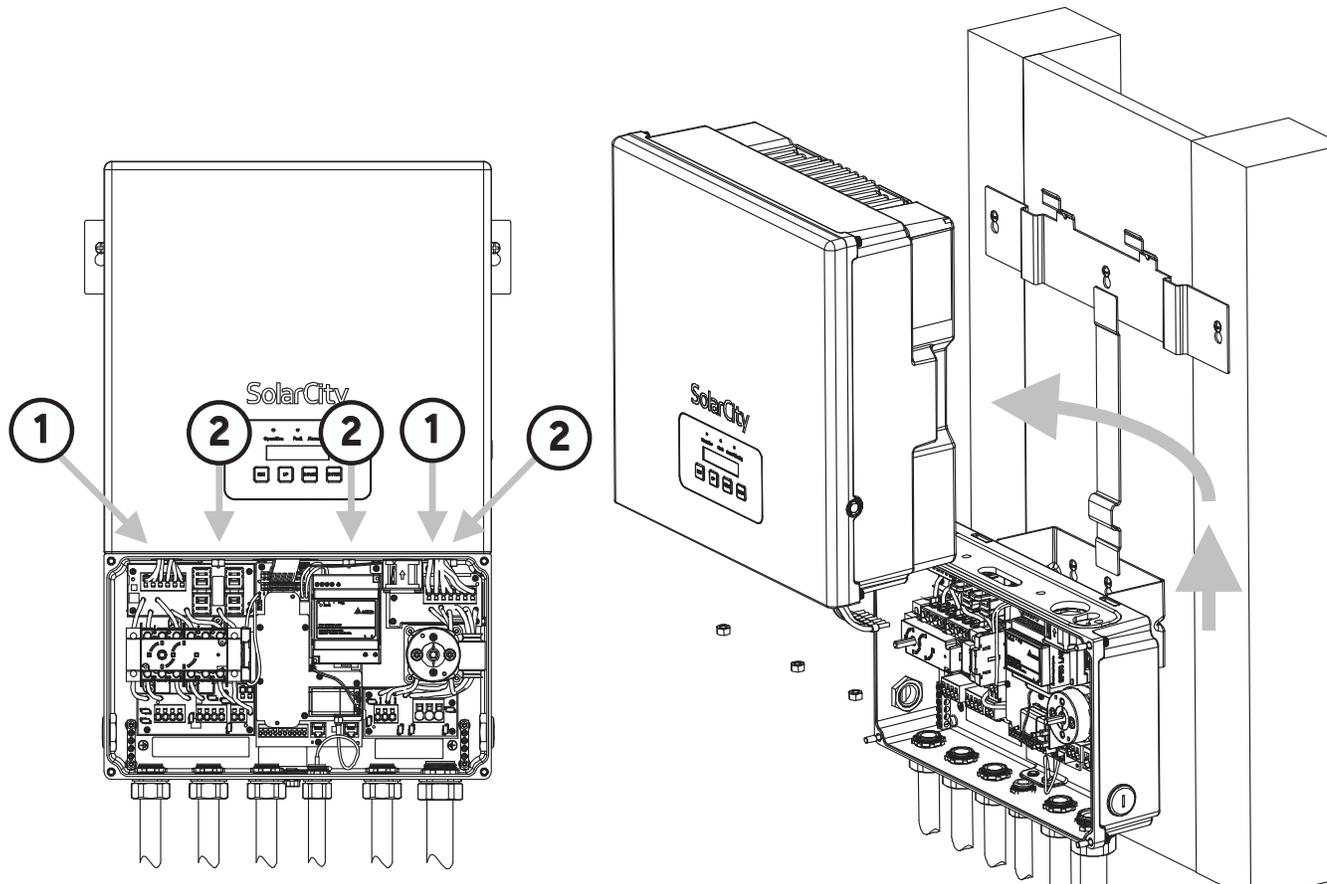

Figure 10-1: Removing the SolarCity H6 inverter top section
6. Remove all of the wires (1) from the top section spring-clamp connectors, as shown in *Figure 10-1*.
7. Using a 10mm wrench, remove the three nuts (2) holding the top section of the inverter to the wiring box section.
6. Lower the inverter top section into position in the reverse of what is shown in *Figure 10-1* while verifying all of the following: